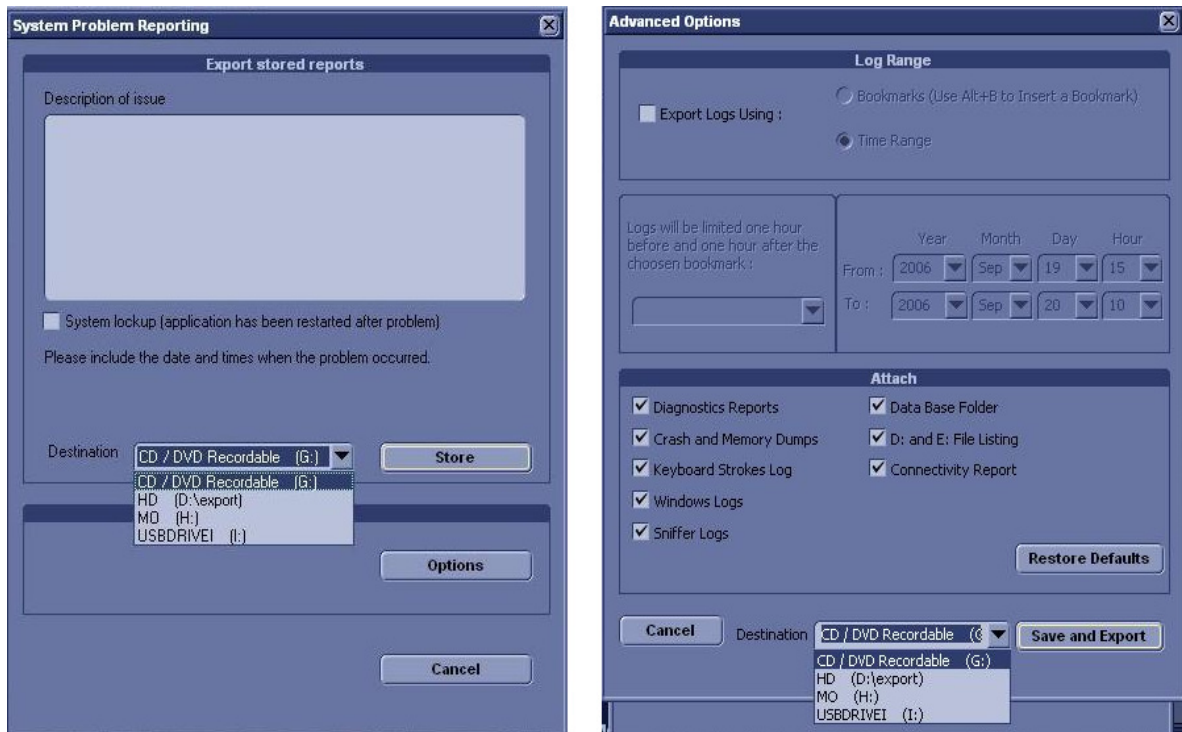

Figure 7-1 ALT-D Dialog Box and Option Dialog box
NOTE: From BT05 software, USB memory stick is supported. Option button and options dialog box like the right side image in Figure 7-1 is only supported from R4.0.4.
When pressing Option button, you can see the Advanced Option dialog box like Figure 7-1.
- Under the Attach section, you can select various log options as seen in the Figure 7-1.